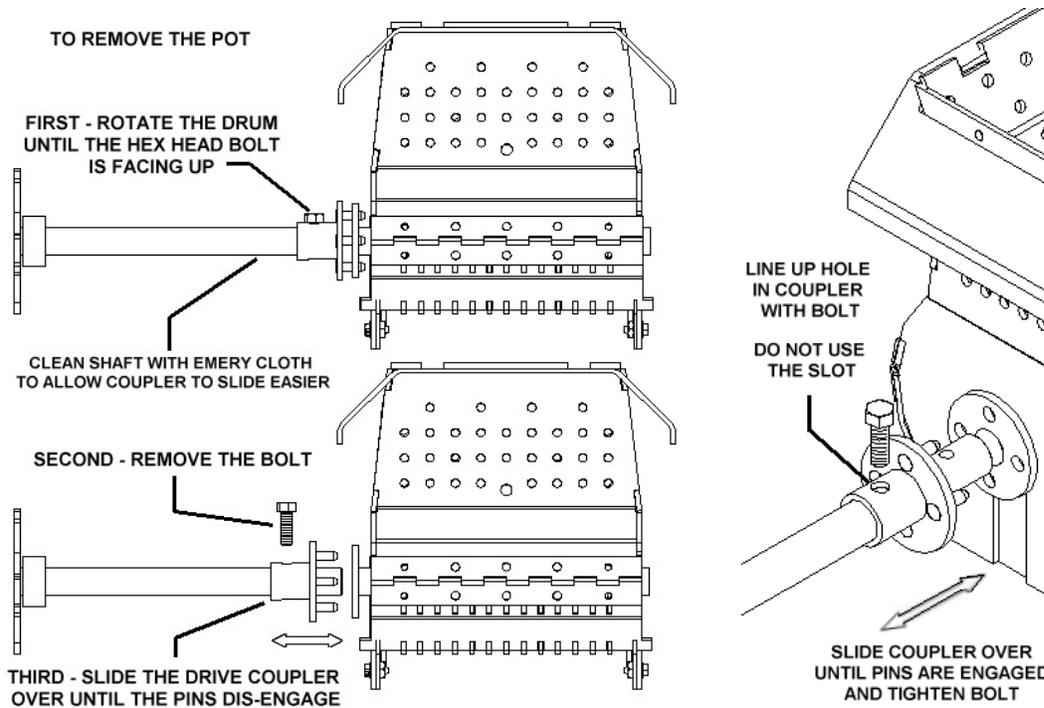

Figure 20
- 1 – Trip the Revolution Motor Switch as shown in figure 19 until the Hex head bolt is facing up as shown in figure 20. Remove the bolt and slide the Drive Coupler over to disengage the pins from the drum. Polish the shaft with some emery cloth if any residue has built up on the shaft during use to allow the Drive Coupler to slide easier.